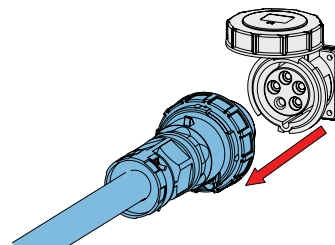

Fig. 2
**CAUTION!** Unplug the appliance before hand cleaning. Allow to cool before removing or installing parts. (Fig. 2)